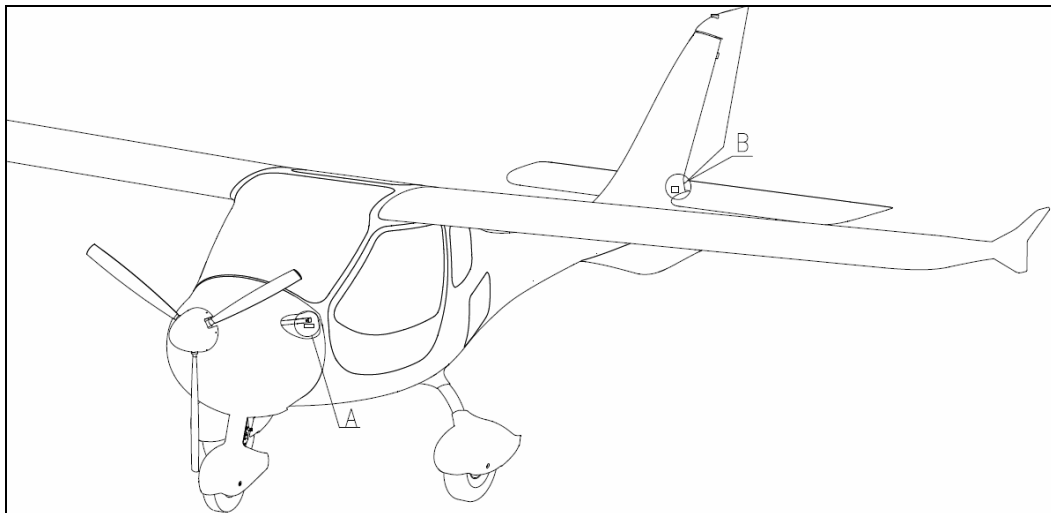

Fig. 1 – Location B data plate is affected
- **Caution:** This instruction only affects the data plate attached to the left hand side of the tail boom of your aircraft (location B in Fig. 1). The data plate installed to the firewall is not affected.